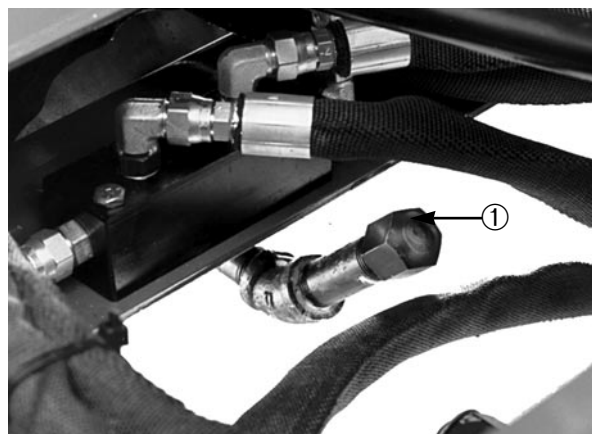

Figure 5
3. Remove the plug in the center of the axle and check the level. If the level is low, add enough lubricant to bring it up to the bottom of the hole (Fig. 5).